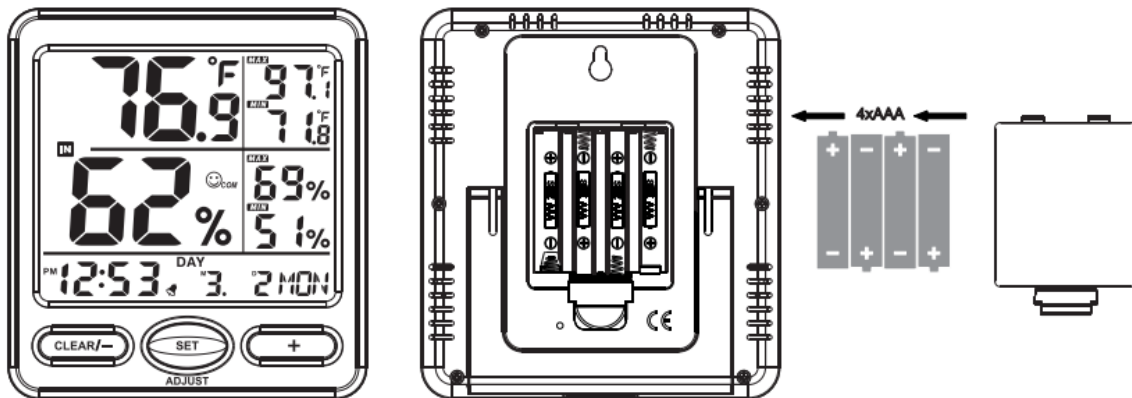

Figure 1
1. Remove the battery door on the back of the display, as shown in Figure 1. Insert four AAA (alkaline or lithium, avoid rechargeable) batteries in the back of the display console. All of the LCD segments will light up for a few seconds to verify all segments are operating properly.